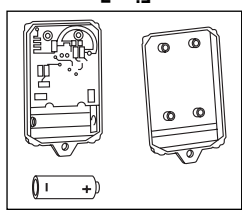

Fig. 7
1. Remove 4 screws from back of transmitter and install one 12V, 23AE alkaline battery. (Fig. 7)